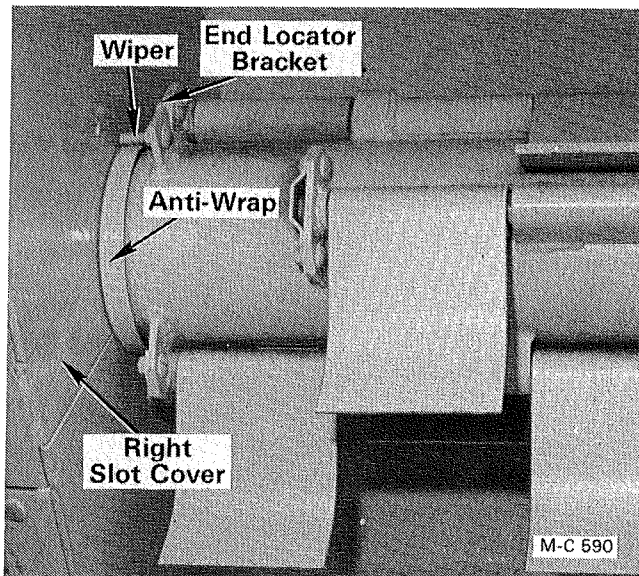

Figure 29 - Rear View
5. Check the position of the two wipers (180° apart) at the end of the rotor, see Figure 29. They should be as close to the anti-wrap as possible without touching it. The wiper prevents material from building up on the anti-wrap. If necessary, loosen the wiper locknut and reposition the wiper in the adjusting slot.
7. Check the position of the two wipers (180° apart) at the end of the rotor see Figure 29. They should be as close to the anti-wrap as possible without touching it. The wiper prevents material from building up on the anti-wrap. If necessary, loosen the wiper locknut and reposition the wiper in the adjusting slot.